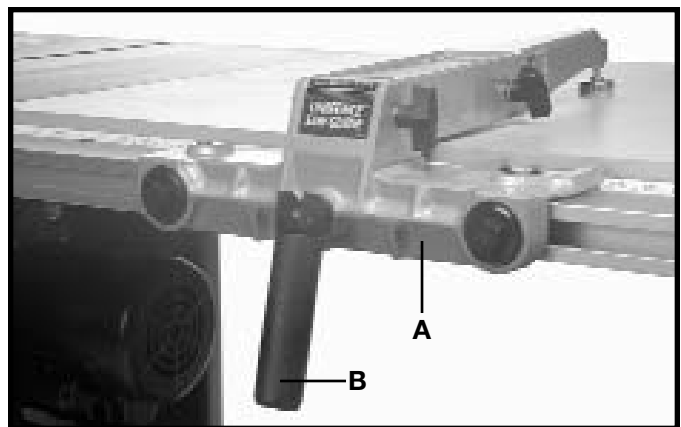

Fig. 35
4. Lock fence body (A) to the guide rail by pushing down on handle (B) as shown in Fig. 35.